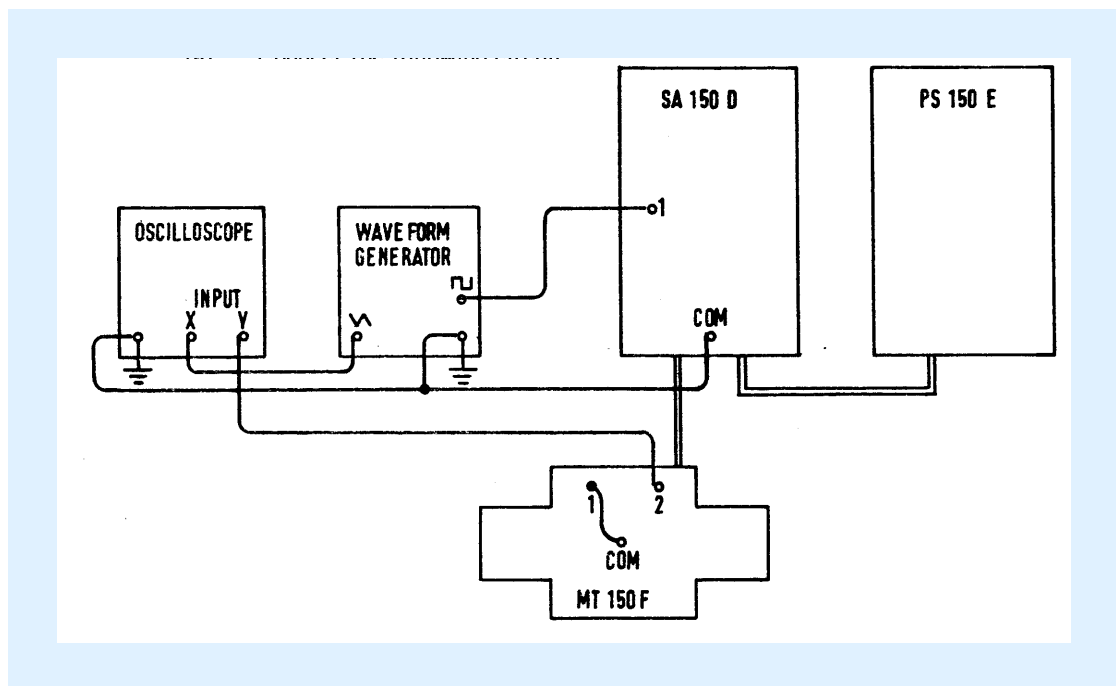

Fig. 2 Measurement of the motor time constant
1. Connect the circuit shown in Fig. 2.
1. Use the previous circuit shown in Figure 2, but remove the rotary potentiometer from the motor shaft.